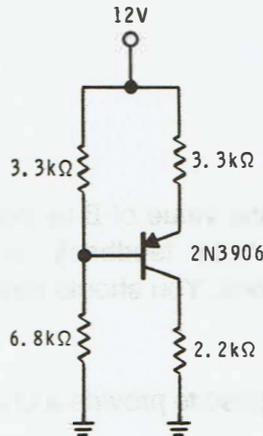

Figure E3-4
16. Figure E3-4 illustrates the complementary PNP circuit for the voltage divider circuit designed earlier. Consequently, $I_{CQ} \approx 1\text{mA}$ and $V_{CEQ} \approx -6\text{V}$. Calculate the terminal-to-ground voltages. Record the calculated values in the appropriate column in Table E3-4.
17. Construct the circuit shown in Figure E3-4. Make sure you use the PNP 2N3906 transistor when you build the circuit. Enter your measured values of V_B , V_C , and V_E in Table E3-4.
In Figure E3-4 the negative side of the 12V supply voltage is the reference, or ground point. Therefore: